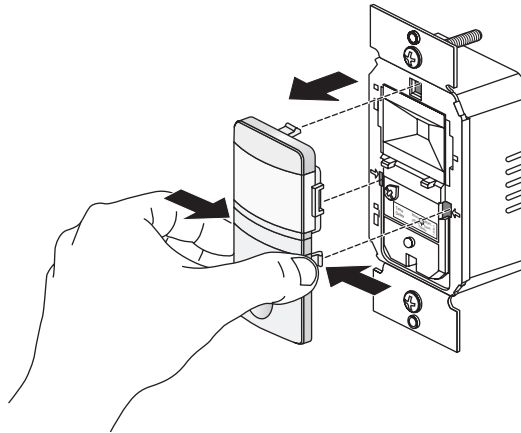

Fig 5: Remove Front Cover
2. Firmly grasp the edges of the front cover directly below the lens where it says “open” (see Fig. 5). Push in one side first until it pops out, then the other side. Remove front cover from the unit.